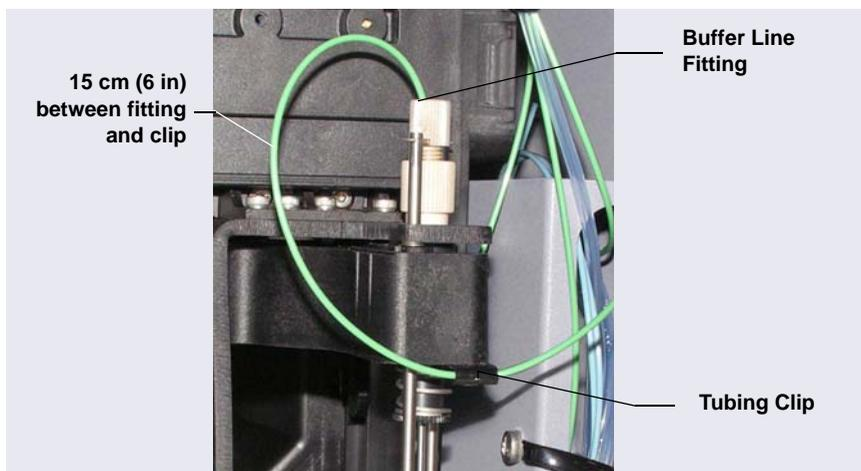

Figure 5-26. Buffer Line Positioned in Tubing Clip on Needle Arm (Push Mode)
4. Position the tubing so there is 15 cm (6 in) from the buffer line fitting to the tubing clip on the front of the needle arm (see Figure 5-26). Make sure the tubing loops toward the front of the autosampler at about a 30° angle as shown in Figure 5-26.